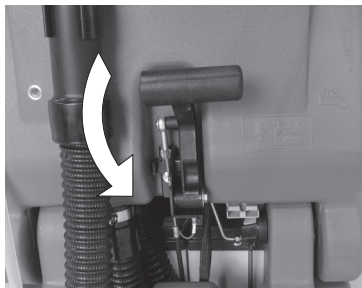

Figure 16
4. Lay squeegee lifting handle down, so that the squeegee assembly descends to the ground (Figure 16) and vacuum motor will start.